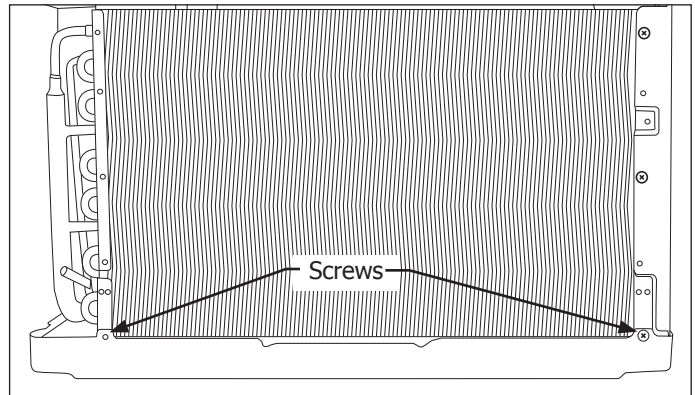

**Figure 4-71.**
6. Extract the two screws securing the bottom of the condenser to the unit base. (See Figure 4-71)